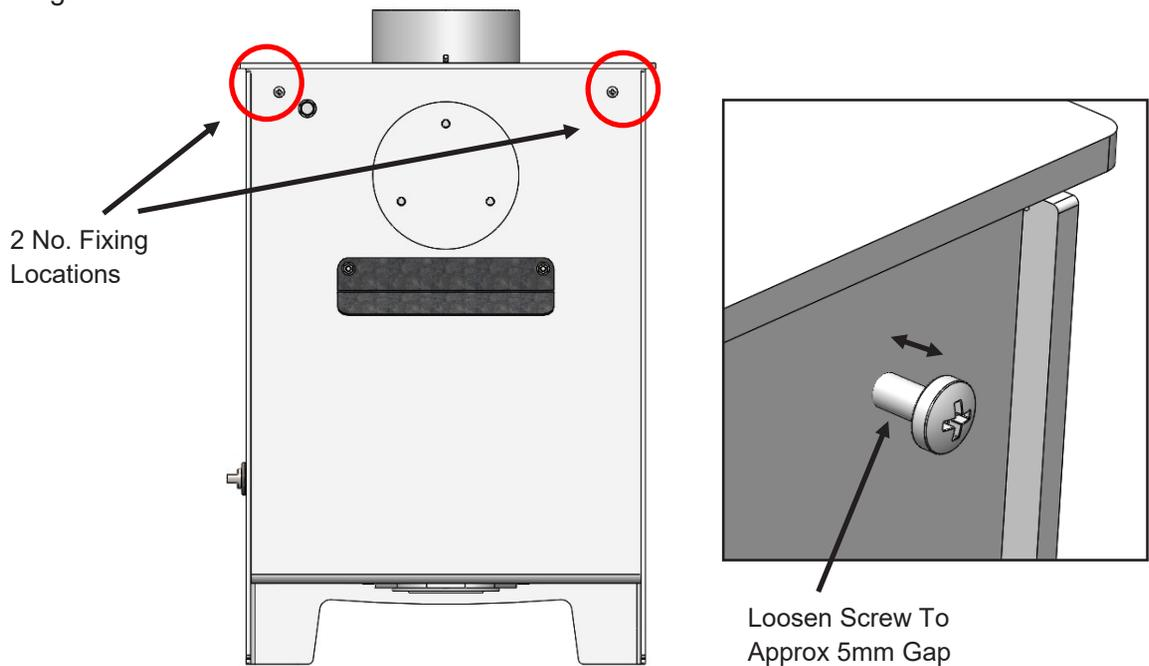

Figure 1. Fixing Locations
Step 1 : Working on the rear of the appliance, loosen the 2x screws (DO NOT REMOVE), as indicated in figure 1.